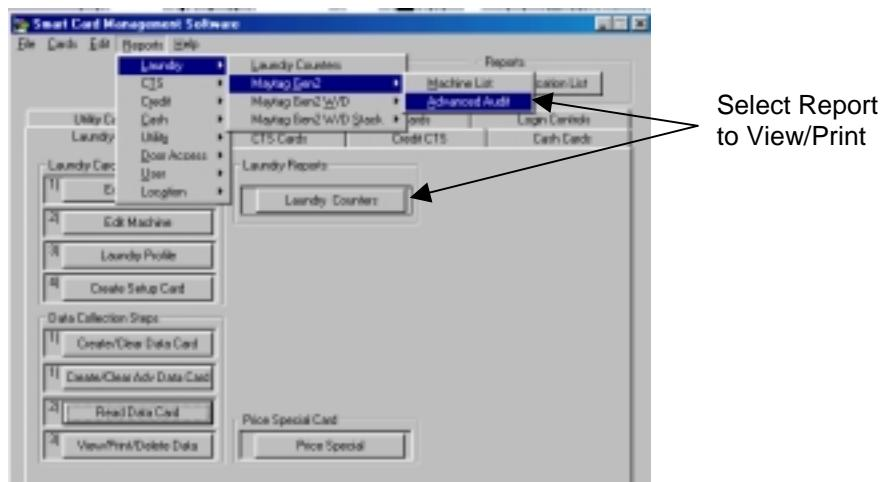

Figure 8.37 Selecting Laundry Machine Report
1. Click the Laundry Counters button in the Laundry Machines Manager for that report or select any other desired report from the Laundry sub menu of the Reports drop-down menu (Figure 8.37).